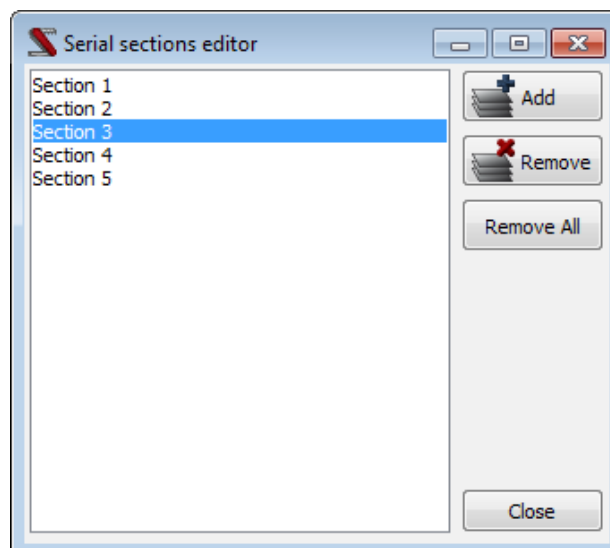

Figure 6.17: *Managing sections*
5. Open the serial sections editor (Fig. 6.17) by clicking on the button to the right of the active section display. Add a new section by clicking on the **Add** button. Close the editor. Your newly created section is now active and your marked objects are no longer visible.